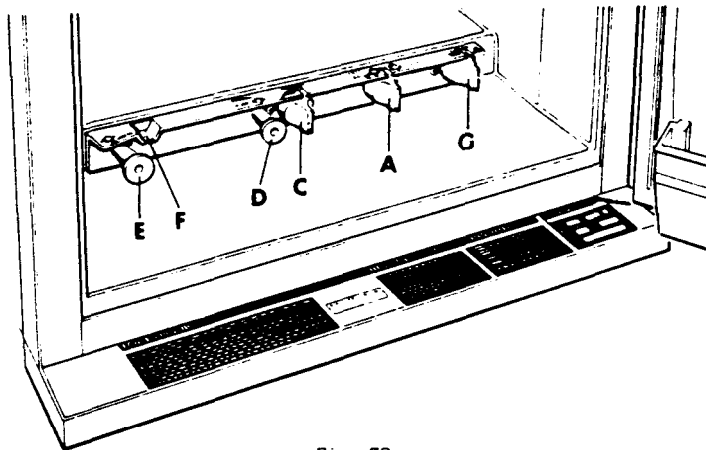

Fig. 72
26. GAS OPERATION (Fig. 72)
27. ELECTRIC OPERATION (Fig. 72)
The **RM36C**, RM46, RM47, **RM66**, RM67, **RM76** and RM77 models are equipped with a Piero crystal lighting device which creates a spark over the burner when the button E is pushed in fully (see fig. 72).
1. Release the Piezo lighter knob "E" (see fig. 72) inside the cabinet by means of pulling the knob outwards.